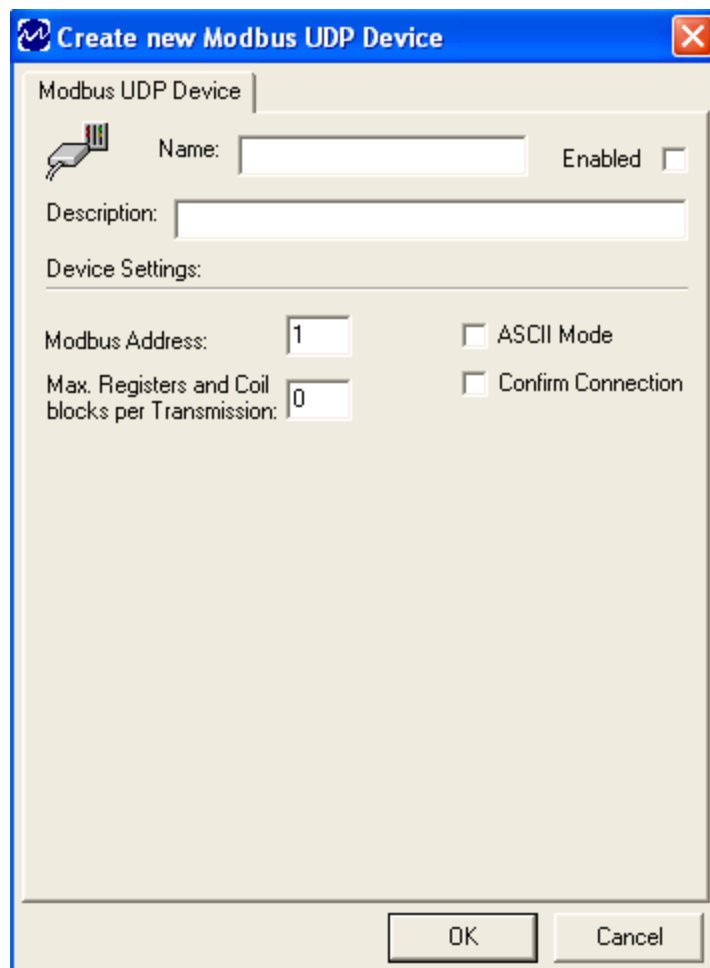

Figure 15 - Create New Modbus UDP Device Window
The **Create New** window (Figure 15) displays the settings available for a connection to a Modbus UDP Device.
- The **Create New** window (Figure 15) appears.